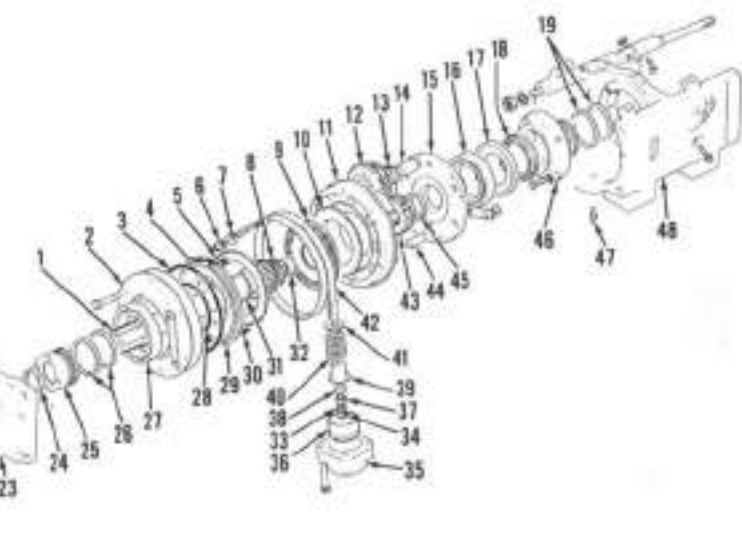

Fig. 196—Exploded view of front planetary assembly of power shift transmission. See Fig. 197 for view of rear planetary assembly.
(20—Fig. 196) and front cover (23). Disconnect brake line from front planetary brake cylinder (35) and remove cylinder. Loosen front brake band locating screws and remove brake band adjusting nuts (6 and 37). Remove sleeve (39), spring (40) and seat (41). Withdraw input shaft (1), then remove brake band (42) and lift front planetary unit from center housing. Remove hydraulic line for planetary brake cylinder from center carrier. Remove spacer plate (17) and sprag clutch (18).
261. FRONT PLANETARY OVERHAUL. Mark clutch cylinder (2—Fig. 196), carrier (11) and end cover (15) so they can be reassembled in their original positions. Remove mounting bolts, then separate clutch cylinder from planetary carrier. Remove piston (29) from cylinder and remove and discard "O" rings (3 and 28). Remove inner and outer springs (4 and 30). Remove clutch plates (5, 9 and 10) keeping plates together for use in reassembly.
Install planetary gear pins, bearings and gears in their original positions with gear timing marks pointing toward center of carrier. See Fig. 198. Install sun gear aligning timing marks as shown. Install thrust washer (45—Fig. 196), with oil groove facing up, into end cover (15). Install end cover over planetary gears aligning marks made during disassembly. Tighten mounting bolts to 40 N·m (30 ft.-lbs.) torque and secure with locking plates.
263. CENTER CARRIER AND FRONT COVER. Inspect sealing rings (19—Fig. 196) in bearing carrier (46) and renew as necessary.
Renew thrust washer (31—Fig. 196), bushing (32) and oil seal (8) in front input shaft (1) if necessary. Be sure to install thrust washer with oil groove side towards gear.
Pry oil seal (22—Fig. 196) from front cover (23). Remove seal rings (25) from front support sleeve (25). Remove sleeve mounting bolts and remove sleeve from front cover if renewal of bushing (24) is necessary.
Install new bushing (24) flush with inner face of support sleeve (25). Apply gasket sealer to mounting surface of sleeve, then install and tighten bolts to 20 N·m (15 ft.-lbs.) torque. Install sleeve sealing rings (26) with chamfered side up on top ring and chamfered side down on bottom ring as shown in Fig. 200. Install new front oil seal (22—Fig. 196) with lip facing inward.
Install front cover and tighten mounting bolts to 20 N·m (15 ft.-lbs.) torque. Install new "O" rings (21—Fig. 196) on support sleeve (25) and tube (20). Position support tube (20) on front cover so oil hole in tube is towards bottom of power shift housing and tighten mounting bolts to 12 N·m (9 ft.-lbs.) torque.